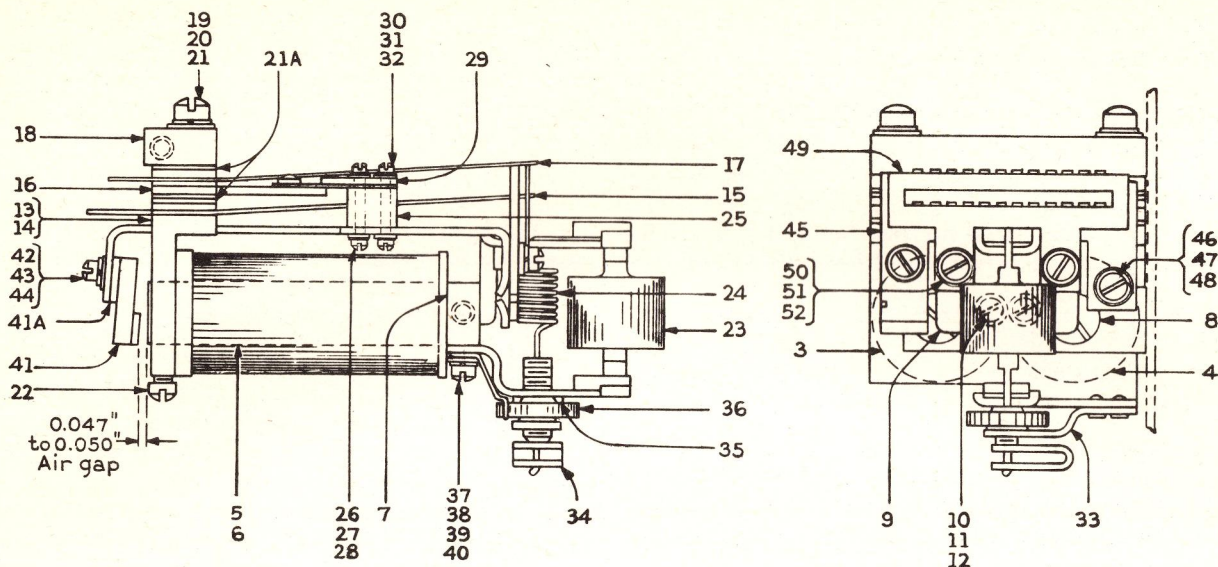

Fig. 9, Ref. 2. Assembly of control unit
At every 1020 hours of operation or whenever the regulator fails to function correctly, the checks and adjustments outlined in the following paragraphs should be made. Reference numbers in parentheses refer to Fig. 9 and 10, and the parts catalog.
The regulator is disassembled in the following manner. Reference numbers, in parentheses, refer to Fig. 9, 10, and 11, and the parts catalog. (See NOTE under DESCRIPTION.)
Disassemble the control unit (Fig. 9) detaching the contact bar (49) and the finger-lifter (45). Remove the armature (41) and shim (41A) from the lever and cylinder assembly (23). Straighten the bent end of spring (24) which extends beyond the stud and temperature compensator (34). Detach the piston and support (33), from the cores and support (5). Remove the stud and temperature compensator (34) and adjusting nut (36) from the piston support.
Whenever the regulator has been completely disassembled, reassembly is made in the following manner. Reference numbers in parentheses refer to Fig. 9, 10, and 11, and the parts catalog. (See NOTE under DESCRIPTION).
Control Unit: Referring to Fig. 9, assemble the control unit (2). Fasten the cores (6) to the core support (7) with screws (8). Press the coils (3, 4) on the cores as far as they will go. The F-3190592 coil (4), having both a potential and an equalizer winding, should be placed on the core nearer the tapped side of the core support (7). The thick flange end of both coils should be toward the support-end of the cores. Add the contact-bar support (9), fastening in place with No. 1276 Glyptal cement and screws (10), washers (11), and lock washers (12).